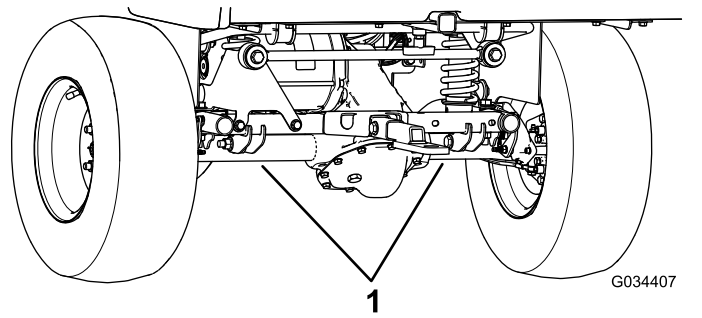

Figure 25
- The lifting point at the rear of the machine is located under the axle tubes (Figure 25).